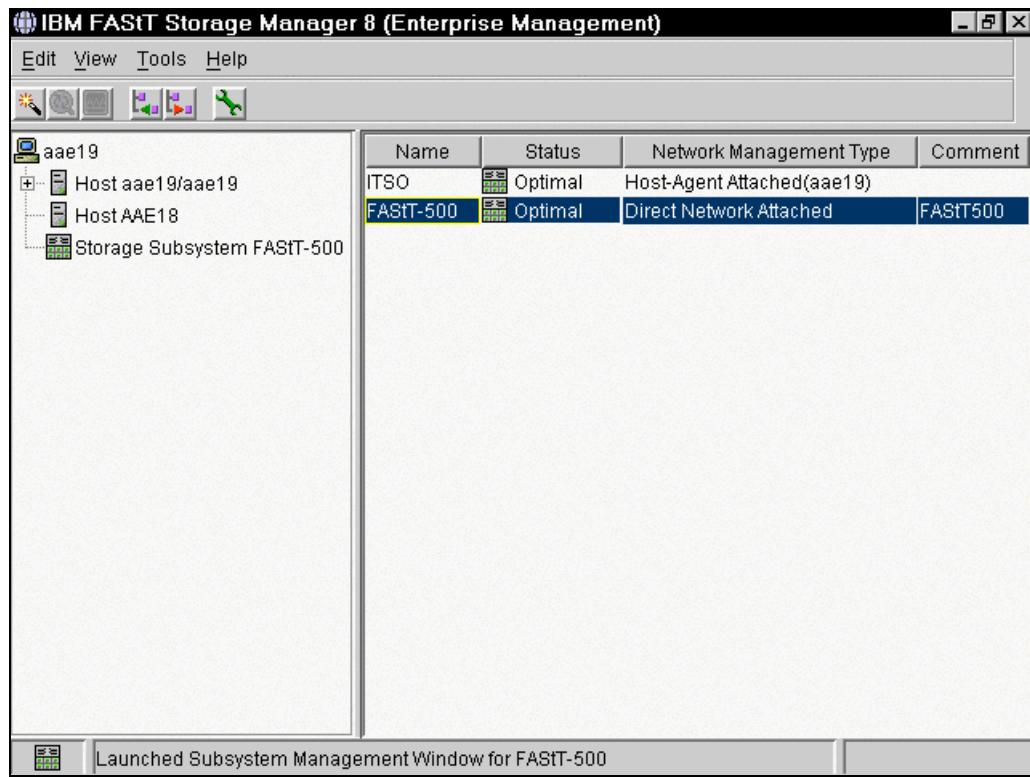

Figure 7-1 The Enterprise Management window
3. Start the IBM Storage Manager client and select the FAStT Storage Server you want to update from within the Enterprise Management window. See Figure 7-1. Note that the title bar displays as IBM FAStT Storage Manager 8.